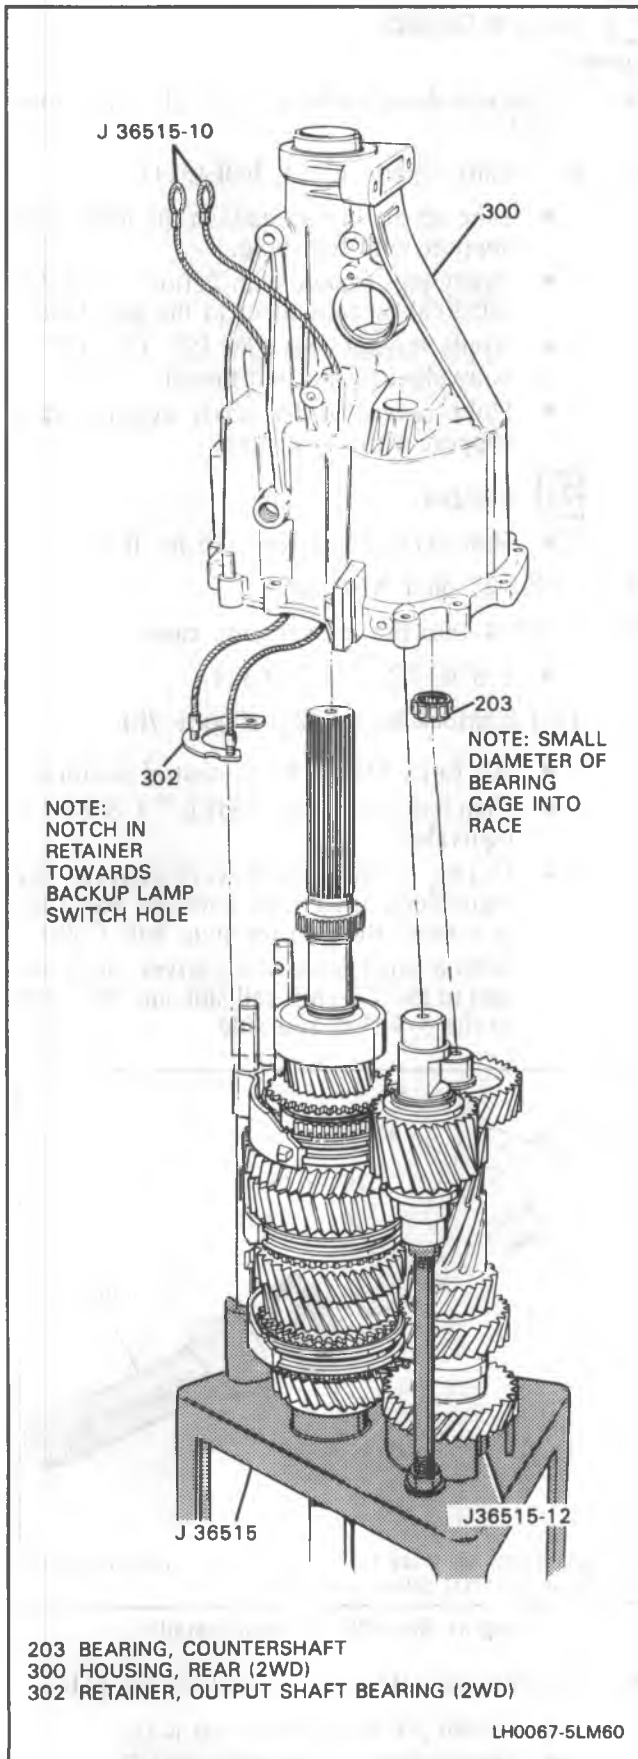

Figure 65 2WD Rear Housing Install
The 2WD rear housing output shaft bearing assembly bore **MUST** be heated for three to five minutes with J 25070 before assembly (Figure 65).
10. 2WD J 36515-10 through bolt (304) and (305) holes in the rear housing (Figure 65).
- Screw into the output shaft bearing retainer (302).
- Notch in retainer towards oil delivery tube assembly (307).